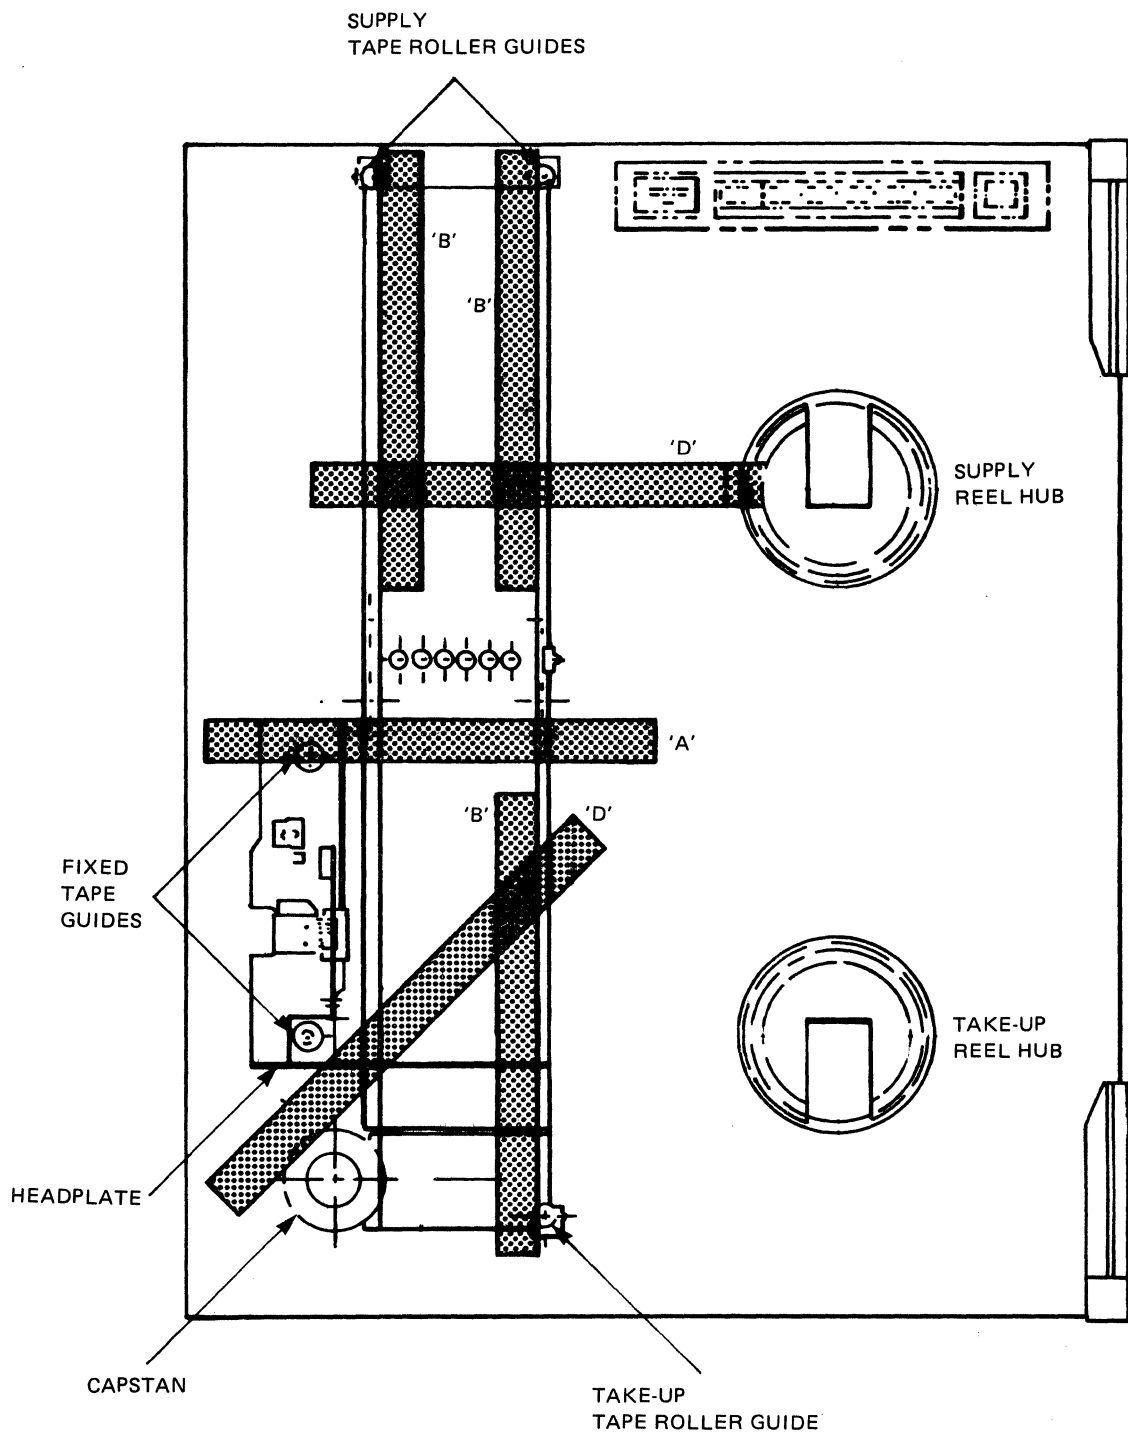

Figure 5-10 Vacuum Tape Path Alignment Tool Positioning
- d. Place the flat edge of the alignment tool across the top edge of the vacuum column so that the tool edge extends across the top of the fixed guide. Refer to figures 5-10(A) and 5-11. Hold tool firmly in place.
The following tape guide roller adjustment procedure applies to both the supply and take-up guide roller assemblies. Refer to figure 5-10(B) and 5-13 for alignment tool positioning.
- d. Position the alignment tool against the reel hub edge as shown in figure 5-10(C). The L-shaped edge of the alignment tool and the edges of the reel hub should just touch as the reel hub is rotated.
- d. Figure 5-10(D) shows how to position the alignment tool. Position the alignment tool over the vacuum column and against the capstan. The capstan should be flush against the 0.0215 inch edge of the alignment tool.